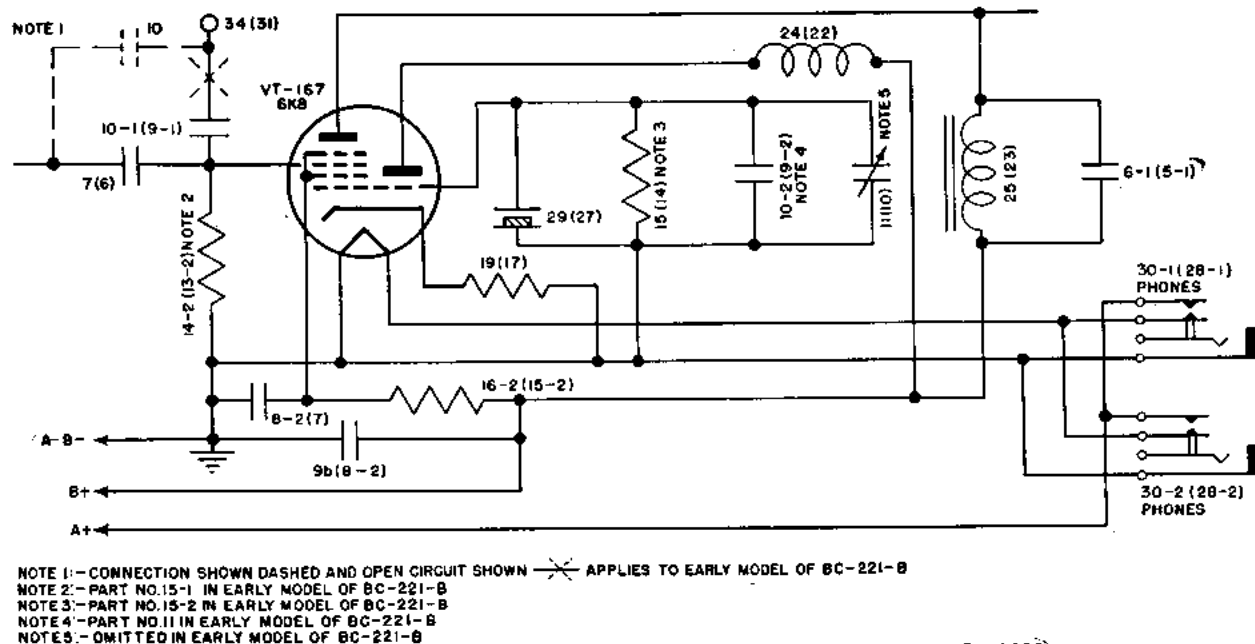

Figure 37 Frequency Meter BC-221-(2), functional diagram, crystal-oscillator circuit.
The crystal circuit uses the triode section of Tube VT-167 (6K8) shown in figure 37. The oscillator operates at the fixed frequency of 1,000 kc when the operation switch 27 (26) is placed in the CRYSTAL or CHECK position. The operation switch controls the crystal oscillator by opening or closing its plate voltage circuit. The oscillator circuit is designed to generate considerable harmonic energy so that it can be used to calibrate the variable frequency oscillator at several points over its entire range, as well as to supply whole multiples of 1,000 kc for the calibration of receivers and similar equipment. The necessary plate circuit impedance is built up across an untuned inductance 24 (22), inclosed in a metal can. Resistor 15 (14), part No. 15-2 in the early model BC-221-B, is the oscillator grid leak and works in conjunction with the tube cathode resistor 19 (17). The variable capacitor 11 (10) is connected across the crystal
29 (27) for the purpose of adjusting the frequency of the crystal to a closer point than can be economically obtained by grinding alone. When the frequency meters are adjusted during manufacture, the variable capacitor is set up to produce a frequency of $1,000 \text{ kc} \pm 5 \text{ cycles}$ at 20° centigrade. The fixed capacitor 10-2 (9-2), shunted across the crystal, minimizes any change in fundamental frequency due to small changes in the crystal capacitance. It should be noted, that part No. 11 (10) was omitted from the early BC-221-B, and that part No. 10-2 (9-2) was part No. 11. Further reference to figure 37 shows that the output of the crystal oscillator is electron coupled to the antenna through the No. 3 grid of the hexode section of Tube VT-167 and the capacitor 10-1 (9-1). Note further, that in the case of the early BC-221-B, this connection was made by capacitors 7 (6) and 10 in series. For further details on the crystal oscillator, see paragraph 22.